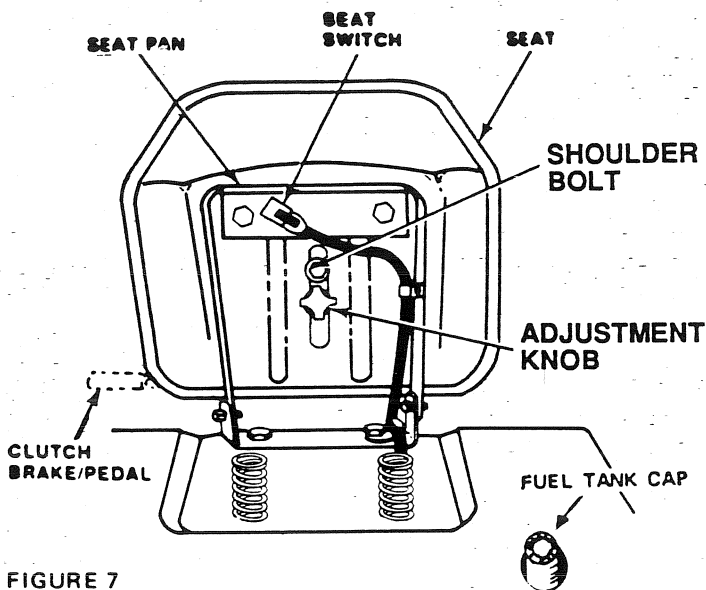

FIGURE 7
- Place Seat on Seat Pan. Screw Hand Adjustment Knob, Flat Washer, and Shoulder Bolt into Seat (Fig. 7). Hand Adjustment Knob, Washer, and Shoulder Bolt found in Bag of Parts.
- Tighten Shoulder Bolt using a 1/2" wrench (Fig. 7). Note that Shoulder Bolt will be loose in Seat slot.
- Hand tighten Adjustment knob. (FIG. 7).
3. Fill Fuel Tank (Fig. 7). Use fresh, clean, regular "UNLEADED" automotive gasoline. Use of regular leaded gasoline is not an acceptable substitute. Use of leaded gasoline will increase carbon and lead oxide deposits and reduce valve life. Capacity is 3-1/2 gallons.